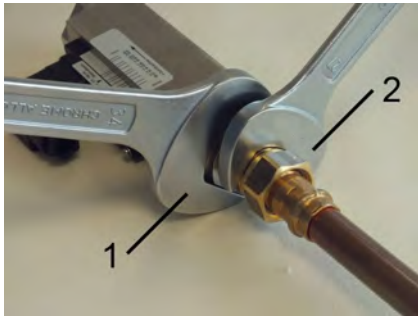

Fig. 12: Screw in the device
- Fasten the adapter union of the pipeline with an appropriate spanner (Fig. 12/2). When doing so, lock the process connector in place to prevent slip, using a suitable spanner. (Fig. 12/1)